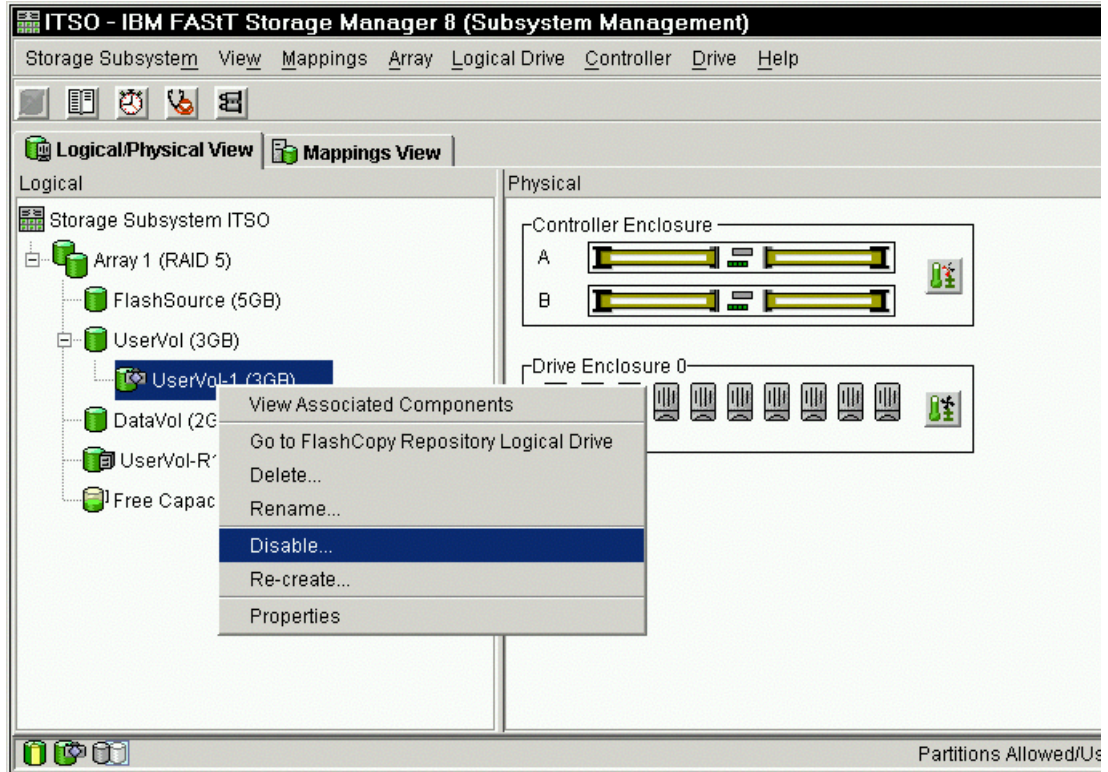

Figure 5-27 Choosing to disable the FlashCopy drive
1. Select the FlashCopy logical drive. Right-click and select **Disable**, as shown in Figure 5-27.